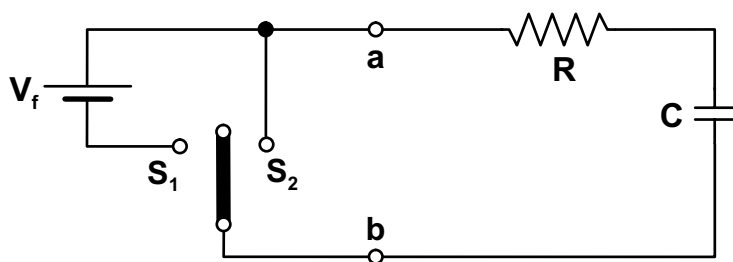

Figure 1: Circuit for charging/discharging a RC network
Study the circuit of Figure 1 and note that the switch can be connected to positions S1 or S2.
When you discuss RC circuits in class, you will study the charging and discharging of a capacitor in some detail. For our purposes, the following may be taken as experimental facts. When the capacitor in Figure 1 is initially uncharged and the switch is connected to S1 at $t = 0$, then the potential difference V across the capacitor C will increase with time according to:
4. Connect the electronic voltmeter across the charged capacitor. When this connection is made, you have an RC circuit similar to Fig. 1 with switch S2 closed and R the resistance of the voltmeter. You can now measure the voltage as a function of time. Devise a method to estimate R . Indicate your result and describe your method.